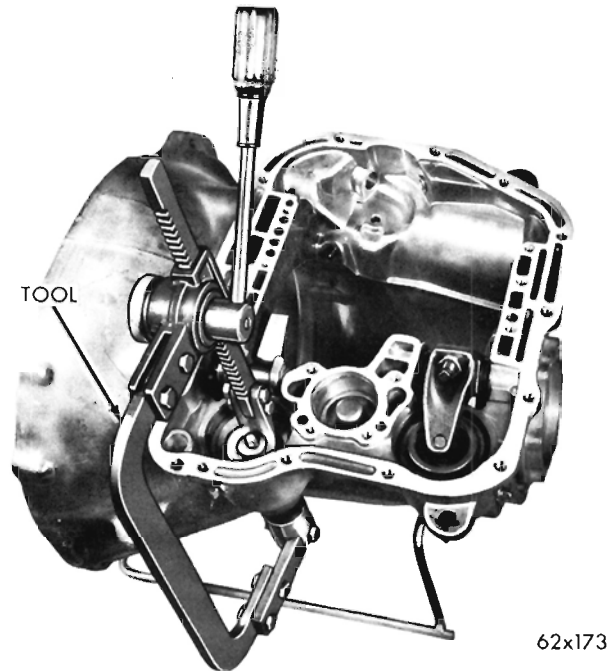

Fig. 70—Compressing Kickdown Servo Spring
(1) Compress the kickdown servo spring by using engine valve spring compressor, Tool C-3422, then remove the snap ring (Fig. 70).
(2) Remove the rod guide, springs and piston rod from the case. Be careful not to damage the piston rod or guide during removal.
(3) Insert Tool C-484 inside the piston and withdraw the piston from the transmission case.